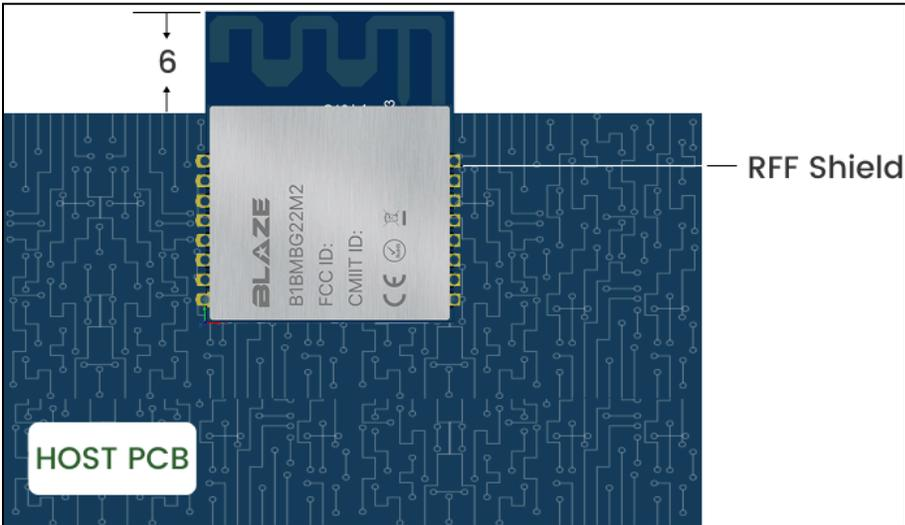

Figure 10.1. BLE Module placements with Antenna position Overhang
- ❑ If the antenna cannot be mounted in an overhanging position, then provisions must be made to keep the area clear of copper as recommended in Figure 10.1.